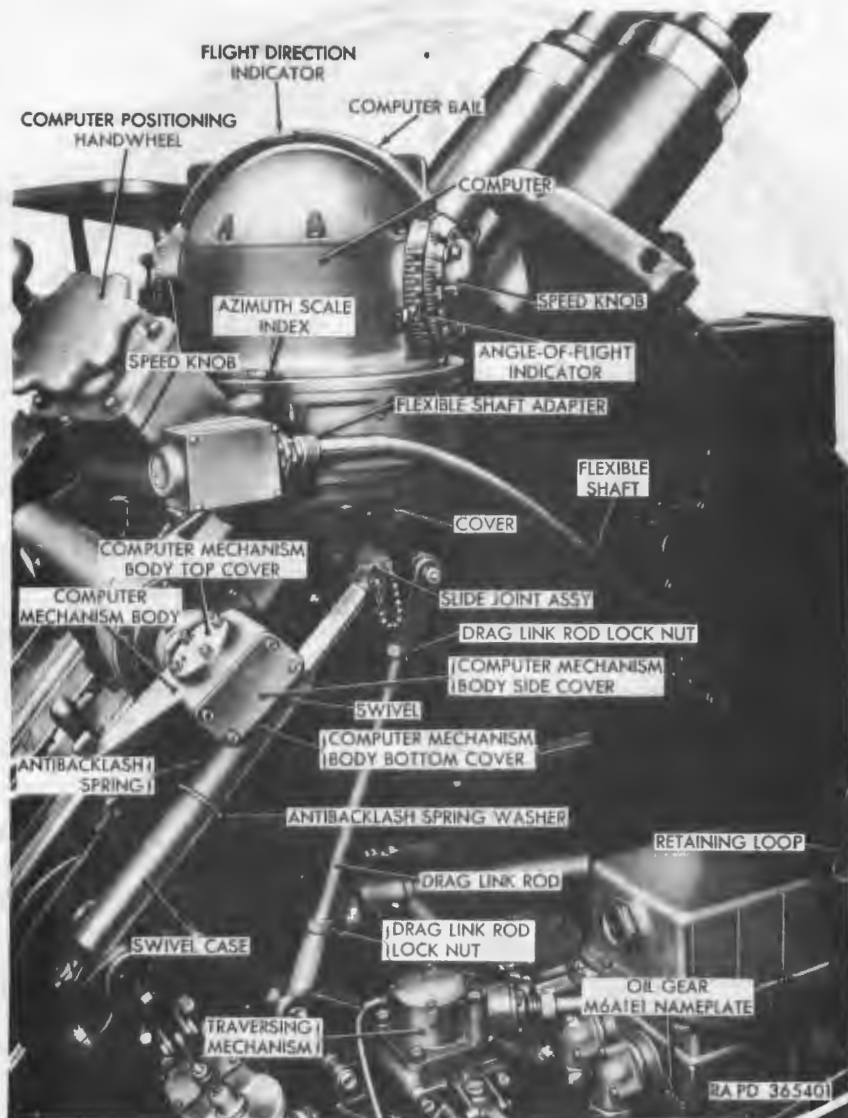

Figure 24. Computer controls.
b. Computer (fig. 24). The computer is located on the right end of the computing sight and contains the speed knobs, computer bail, and computer positioning handwheel.